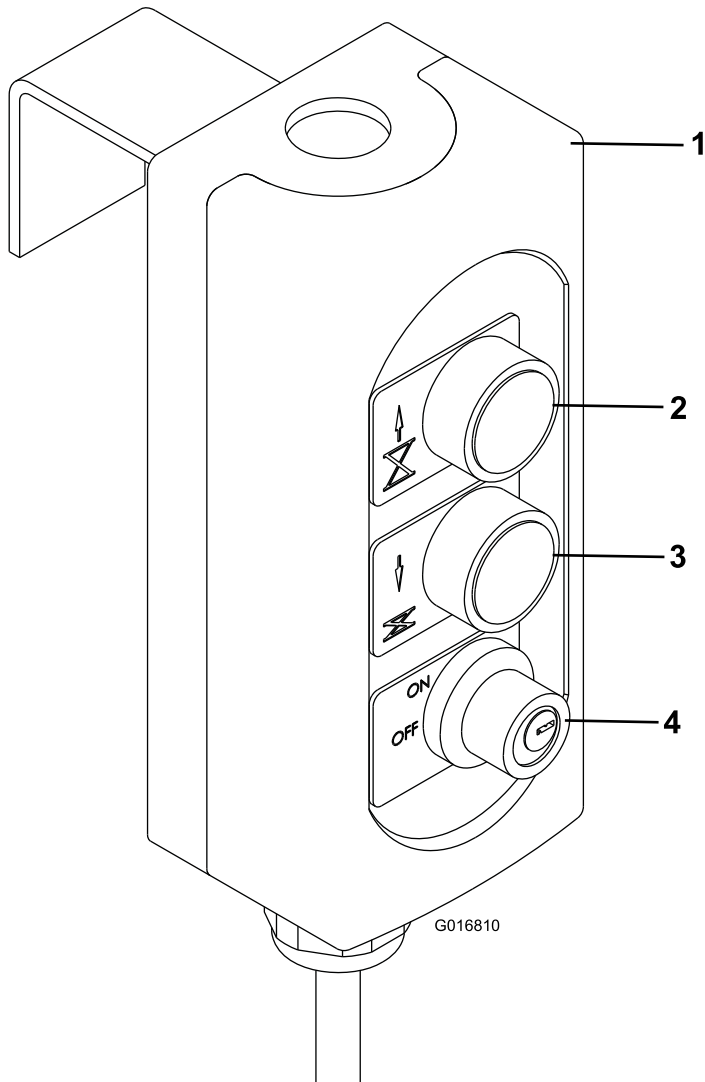

Figure 21
Press the Up button to raise the lift (Figure 21).
Press the Down button to lower the lift (Figure 21).
Rotate the key switch to authorize the use of the lift. Remove the key from the lift pendant control switch to prevent operation of the lift whenever the machine is left unattended (Figure 21).
5. Press the Up button to raise the lift and the Down button to lower the lift (Figure 21).